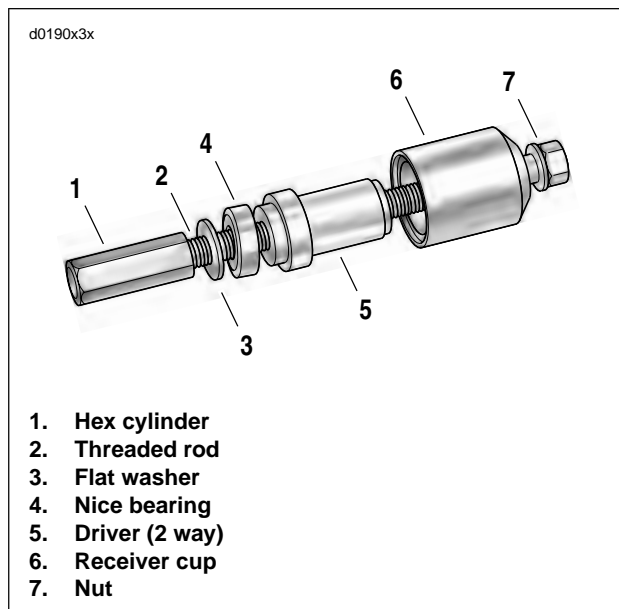

Figure 3-103. Connecting Rod Bushing Remover/Installer (Part No. HD-95970-32D)
2. See Figure 3-103. Attach PISTON PIN BUSHING TOOL (Part No. HD-95970-32D) to the connecting rod.